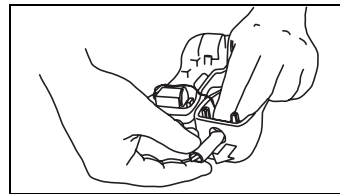

Figure 4. Inserting the Line Cord
- 1 From the inside of the housing, slip the line cord clips through the hole in the housing (Figure 4).